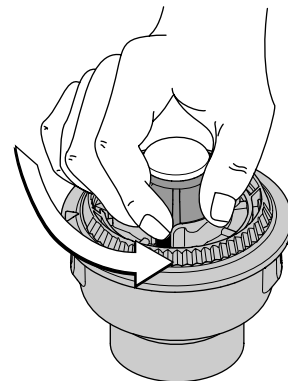

Fig. 16
1. Hold the outer spool, and unscrew the bump knob counterclockwise (Fig. 16).